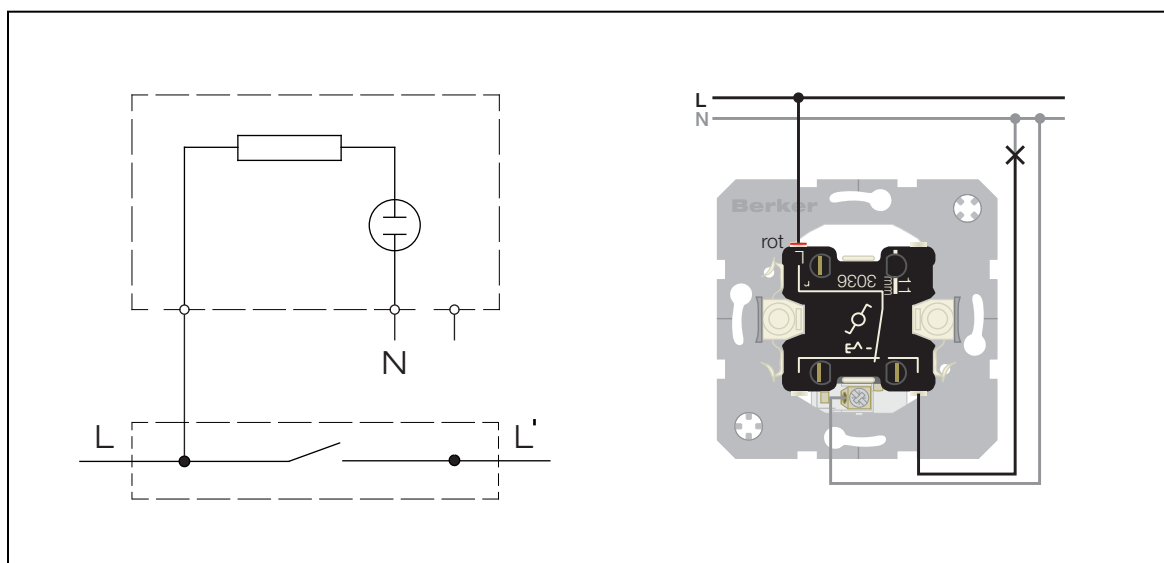

Figure 5
- Connect switch acc. to wiring diagram (Figure 5).